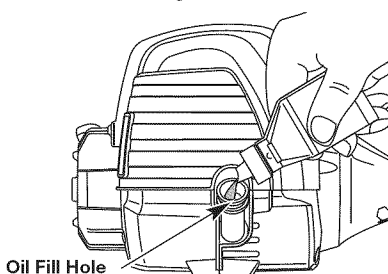

Fig. 7
4. Pour the entire bottle of oil into the oil fill hole (Fig. 7).